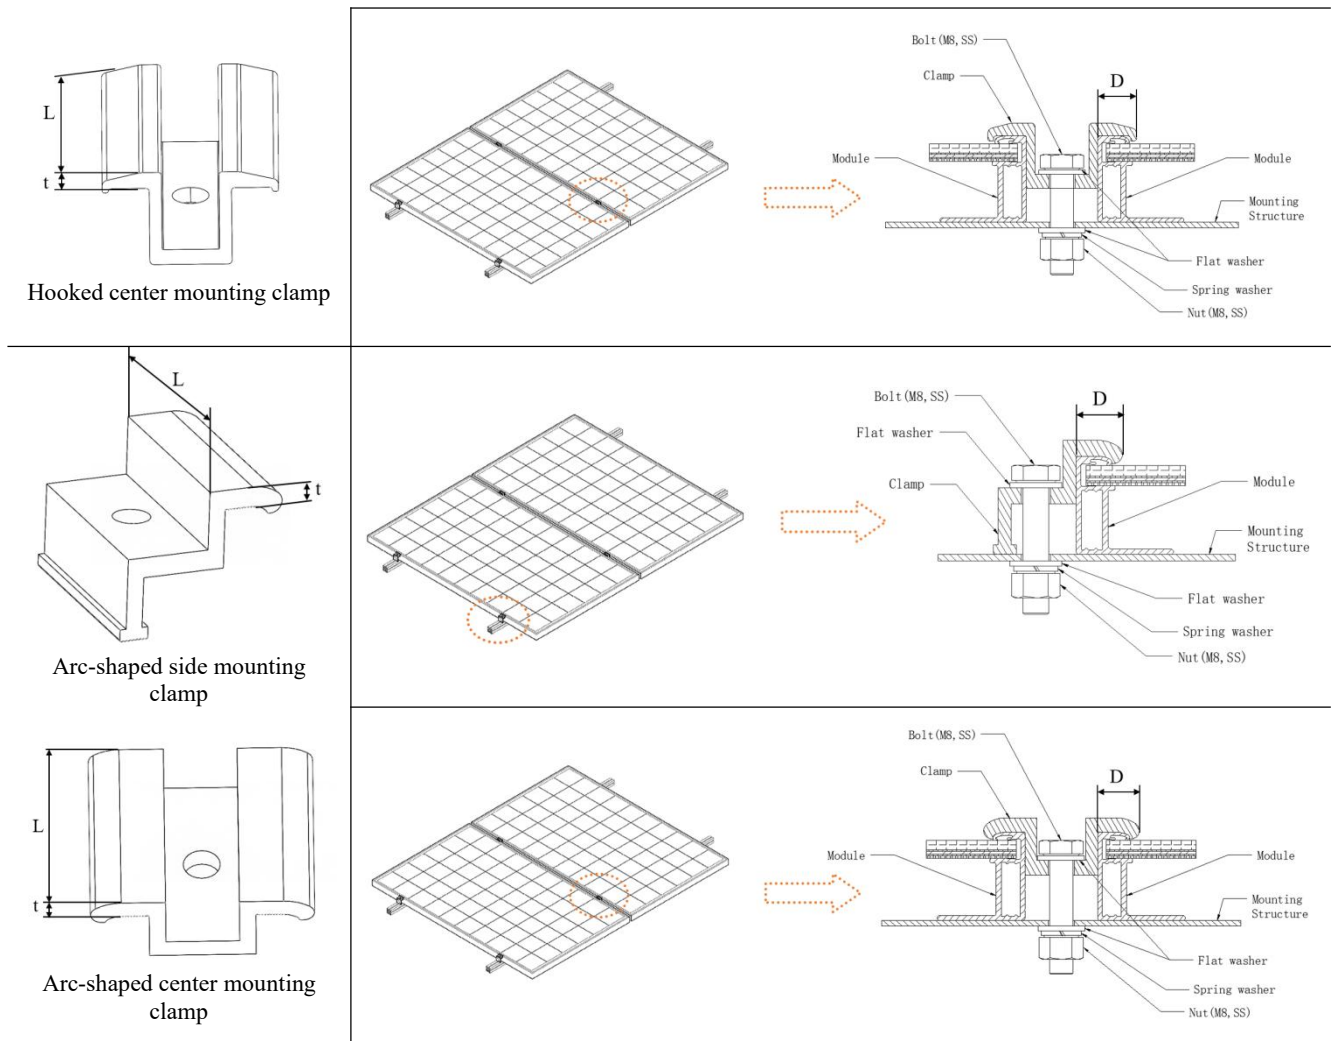

Figure 16 Installation of aluminum frame Module mounting clamp
- ◇ When selecting the mounting clamp method, ensure that there are at least four clamps on each Module, and the clamp need to be arranged symmetrically (Figure 16). The different mounting positions of the clamps affect the maximum load capacity of the Modules (Table 1).